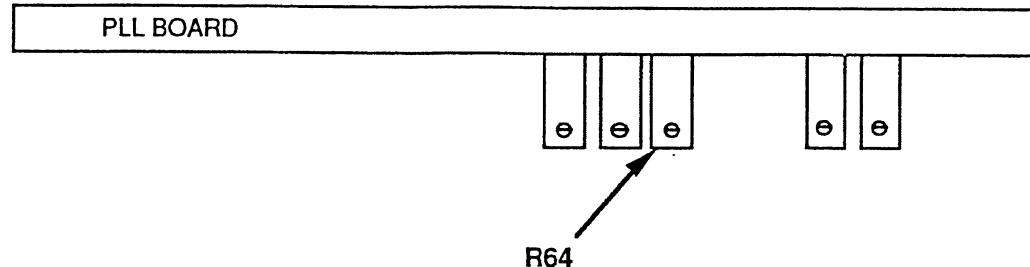

Figure 4-11. R64 Locator
2. Slide the cover back, and adjust the PLL board's R64 (see figure 4-11) until the DVM reads 0Vdc \pm 2mVdc of sine offset. Slide the cover back on.